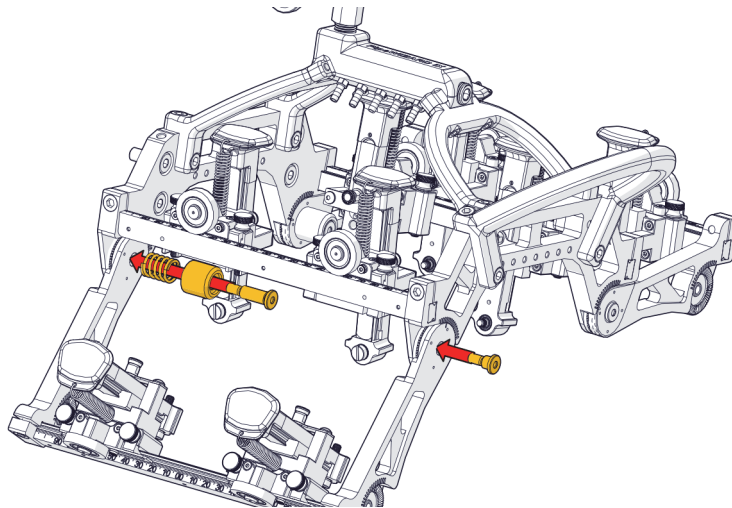

Figure 1-50 Mounting the probe module with spring and spacer
3. Mount the probe module section in place using the spring, small spacing cylinder, and two screws (see Figure 1-50 on page 61).